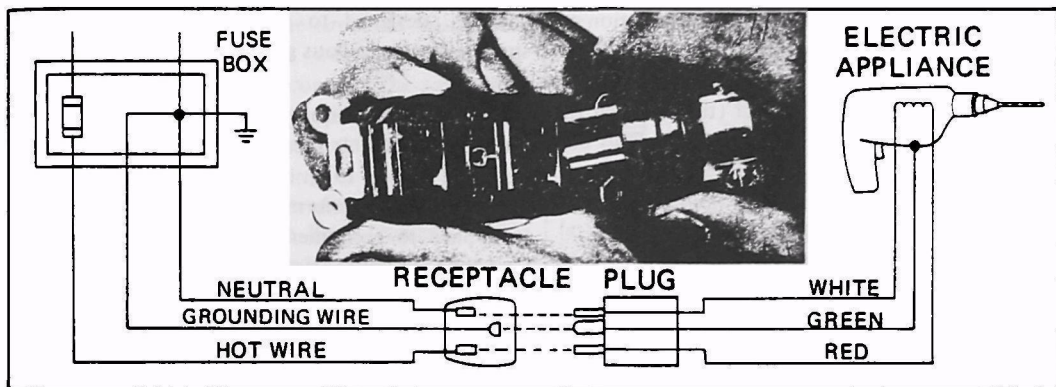

Fig. 7-7. Typical equipment grounding circuit.
7.28 **EQUIPMENT GROUNDING** is a method of shock protection for both portable and stationary electrical equipment. It uses an additional wire (green) to ensure the handle, case, frame, or other exposed metal parts of an appliance are connected to ground. As shown in Fig. 7-7, this grounding wire does not carry current except when a short circuit occurs and a fault current develops between the hot conductor and tool frame. If the fault current is large enough, it will blow the fuse or trip the circuit breaker. If not, the grounding wire at least provides an alternate path (instead of through